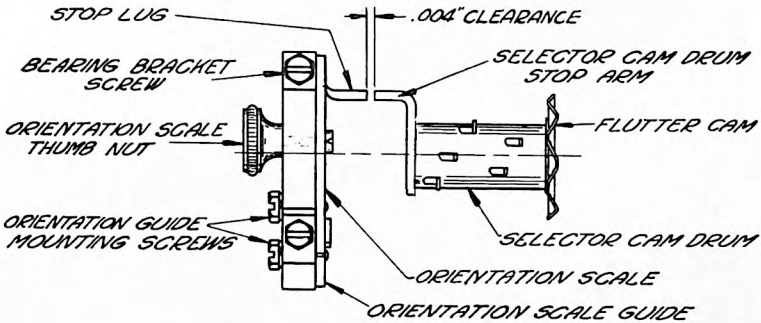

Fig. 1
2. ORIENTATION SCALE GUIDE ADJUSTMENT (Figure 1)
3. MAIN SHAFT POSITION (Figure 1)